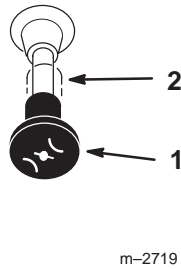

Figure 19
4. Move the choke control to the on position before starting a cold engine (Fig. 19).
7. After the engine starts, move the choke to the off position (Fig. 19). If the engine stalls or hesitates, move the choke back to on for a few seconds. Then move the throttle lever to desired setting. Repeat this as required.